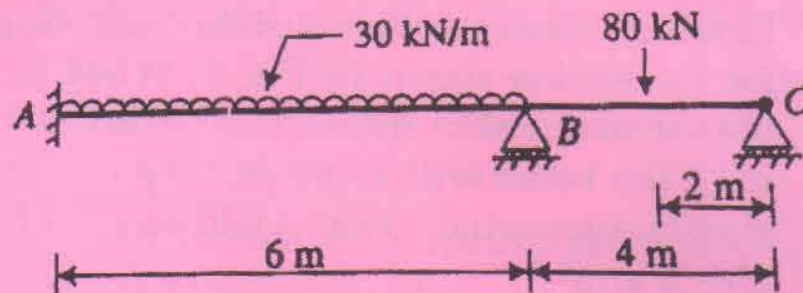

Fig. 3
- (a) Analyse the continuous beam ABC as shown Fig. 3 by using force method of analysis and thereby compute moments M_A and M_B and draw the BMD. Flexural rigidity (EI) is constant throughout the beam.